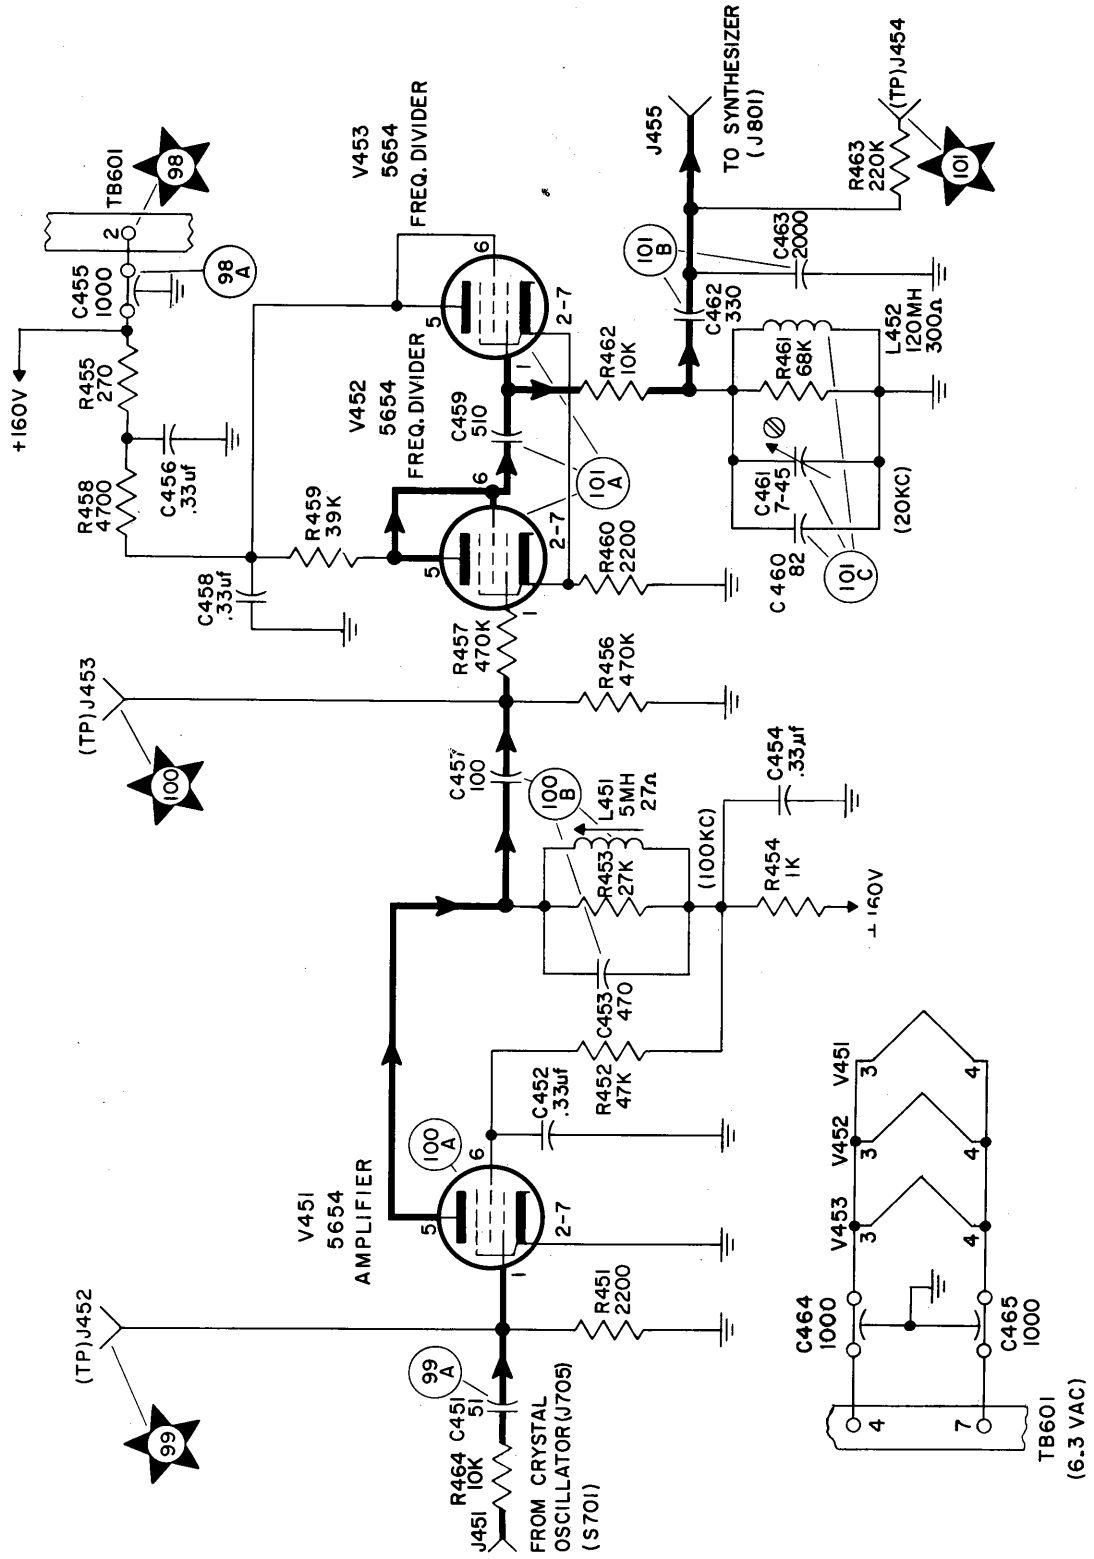
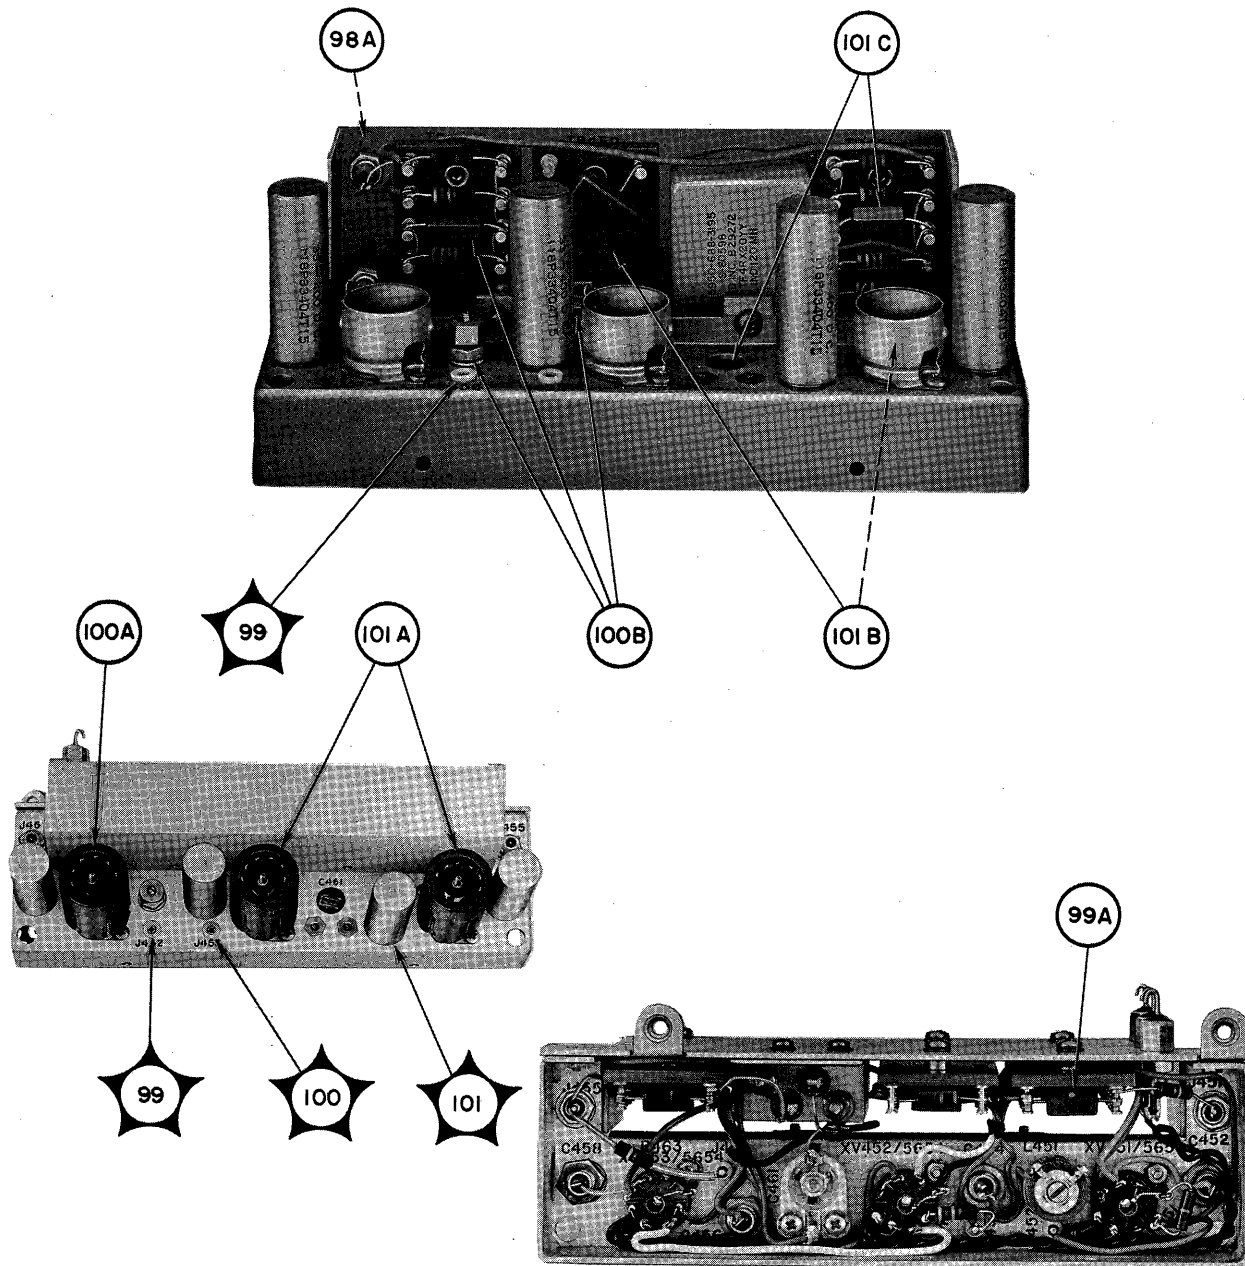

Figure 5-57. Frequency Divider, Functional Schematic Diagram
Figure 5-59. Frequency Divider, Location of Test Points
(See figure 5-57.)
*f.* FREQUENCY DIVIDER TROUBLE-SHOOTING CHART.—Table 5-15 lists the steps for troubleshooting the frequency divider. Perform them in the order given. Figure 5-57 is the functional schematic diagram of the frequency divider, and figure 5-59 shows the location of test points. Table 5-66 gives voltage and resistance values at the socket pins of tubes V451, V452, and V453. To reach these, take the frequency divider subassembly out of the drawer and remove the cover plate from the bottom. Refer to Section 6 for removal instructions.